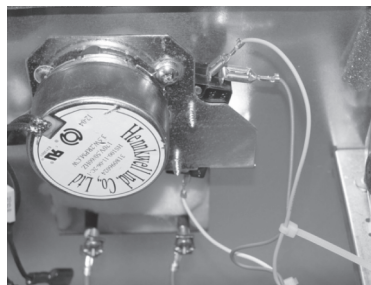

Fig. O-12
3. Unhook all wiring from Lock Motor (**Fig. O-12**).
4. Remove the (2) screws holding the Lock Motor to the Rear Plate.